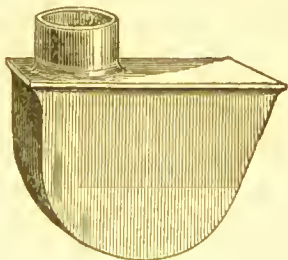

FIG. 4.
*D-trap.* — This old-fashioned trap, Fig. 4, is a great favourite among plumbers, and is in very general use. It is difficult to understand why plumbers should like this trap, especially for water-closet uses, except it is that having so much to do with them—as undertakers with dead